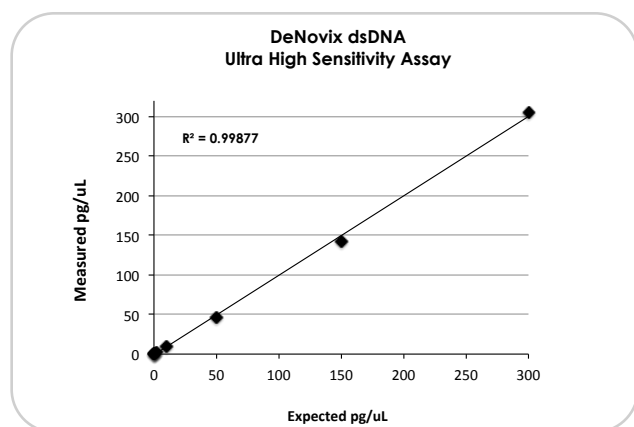

Fig. 2. Standard range using 10 µL of sample in 200 µL of dye reagent.
3. Plot the fluorescence RFU values for the DNA standards on the y-axis and pg/well DNA on the x-axis, and fit a trend line (Figure 2) through these points to generate a standard curve with a y-intercept = 0.